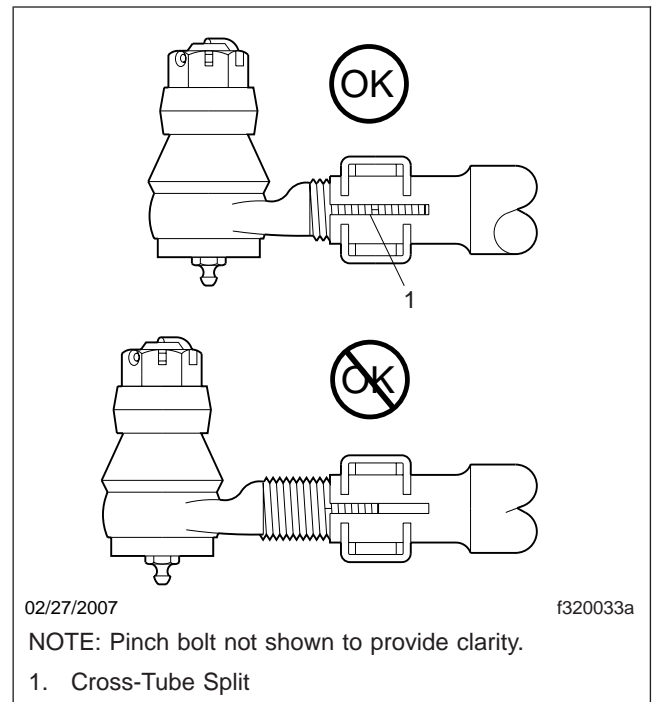

Fig. 5, Tie-Rod End Adjustment
7. Check for proper installation of the tie rod end clamp to the cross tube. Make sure that the tie rod ends are threaded in the cross tube past the clamps and the slots at the cross tube ends. See Fig. 5.